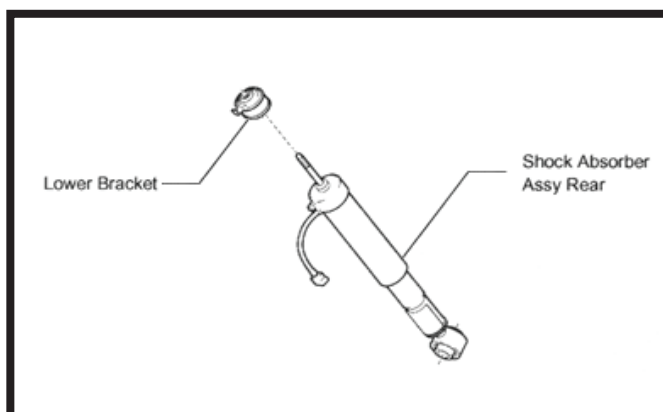

FIGURE 4
7. REMOVE THE LOWER BRACKET FROM THE SHOCK ABSORBER ASSEMBLY. (FIGURE 4)